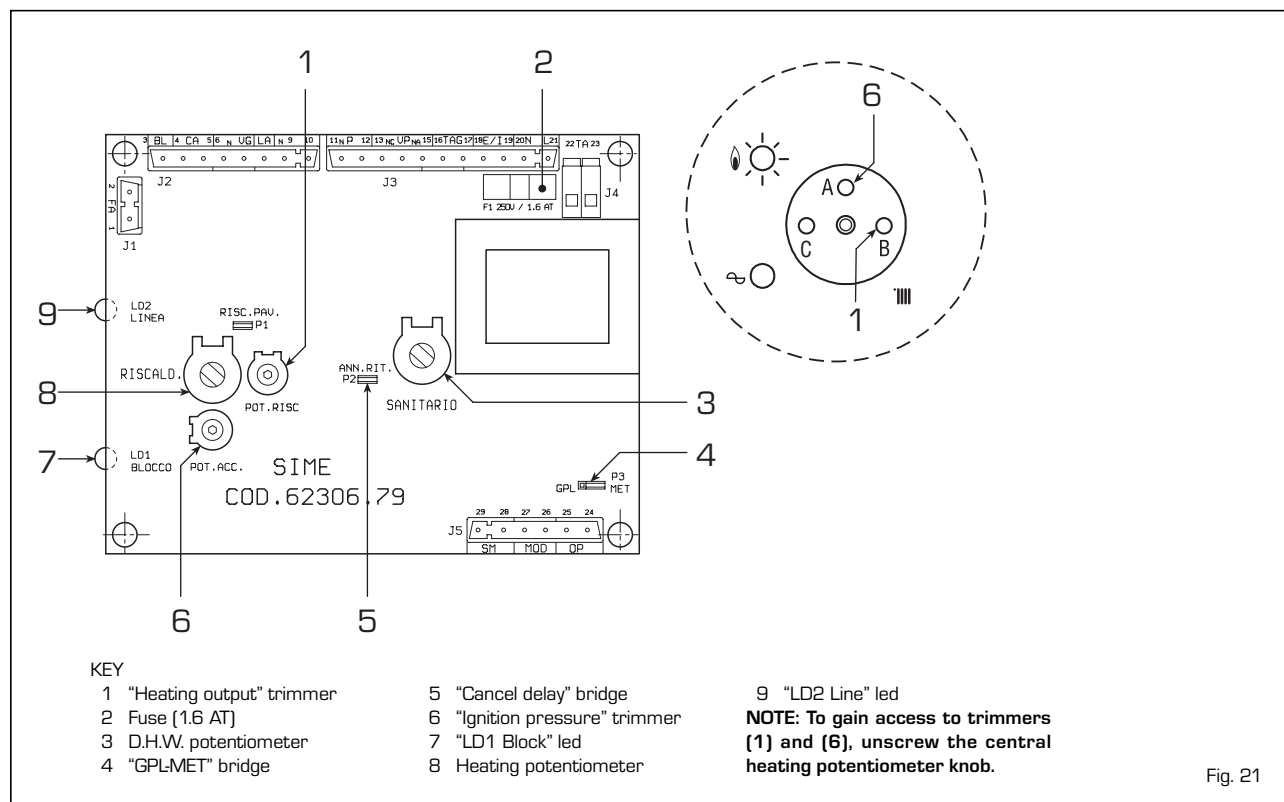

Fig. 21
the trimmer (1 fig. 21). At start-up of each working cycle, after the period of slow ignition having a duration of approx. 5 sec, the boiler will set itself at the heat output set on the "Minimum heating pressure" trimmer.
that can cause an irregular and/or improper operation of the appliance. The leds are located on the card as indicated in fig. 21 and marked with the following wording:
#### - "POT. RISC." trimmer (1 fig. 21)
#### - "POT. ACC." trimmer (6 fig. 21)
- **"GPL-MET" connector** [4 fig. 21]
- **"ANN. RIT." connector** [5 fig. 21]
To adjust boiler heat output for heating purposes, i.e., modifying the setting made at the factory which is approximately 16 kW, use a screwdriver to adjust the heating heat output trimmer (1 fig. 21). To increase working pressure, turn the trimmer clockwise; to reduce pressure, turn the trimmer counterclockwise. To facilitate the operations of adjusting heat output, see the pressure/heat output diagrams for natural gas (methane) and butane or propane gas (figg. 27 - 27/a - 27/b).